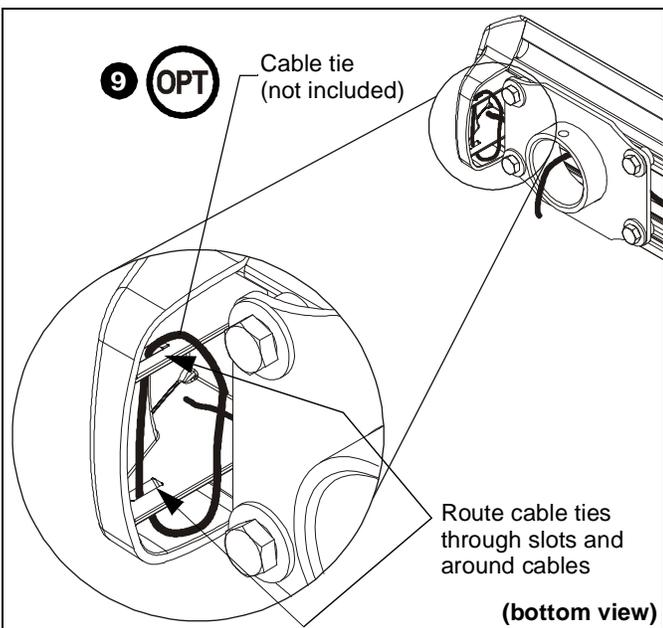

Figure 24
- (Optional) Cables can be tied to inside of projector's front cover using cable ties (not included). Route cables near front cover and wrap cable tie through slots on front cover and around cables. (See Figure 24)